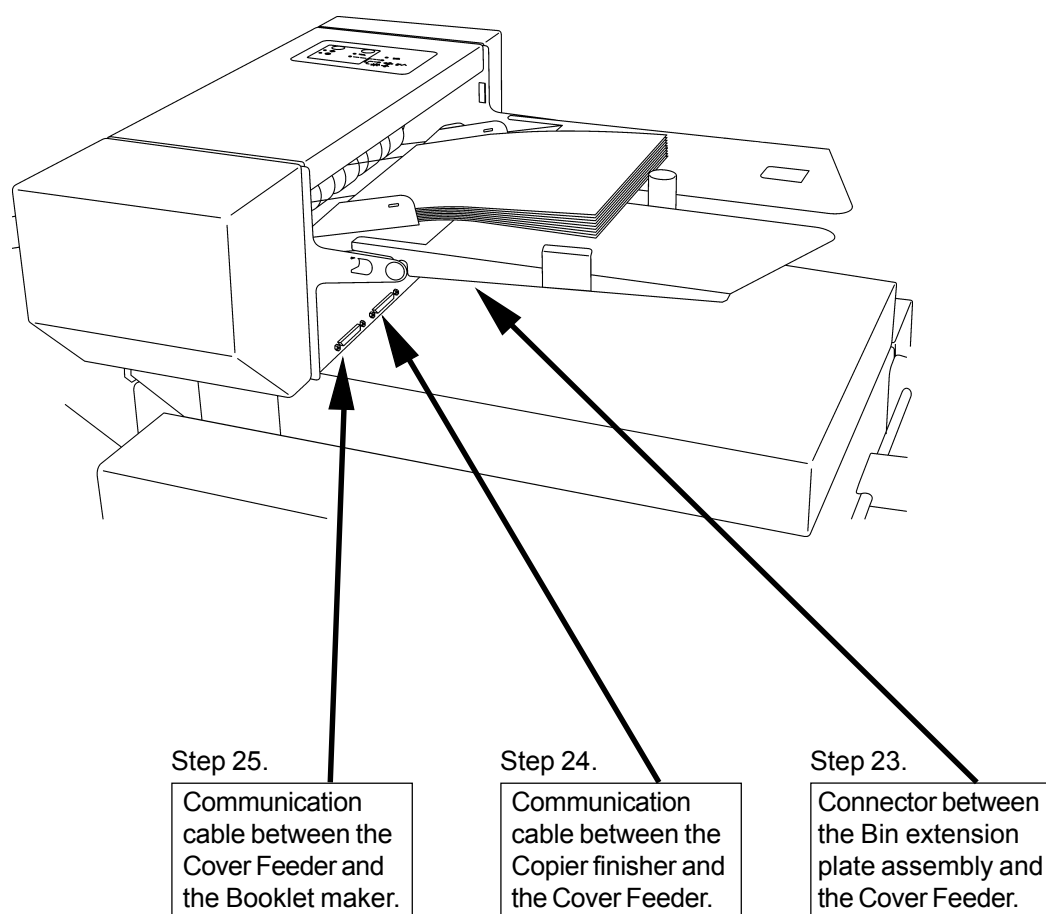

Figure 10, view of Feed roller assembly
23. Connect the Bin extension plate assembly to the Cover Feeder. Connect the connector and the ground wire, according to figure 10.
24. Connect the Communication cable from the Copier Finisher to the Cover feeder, according to figure 10.
25. Connect the Communication cable that was included in the Installation kit between the Cover Feeder and the Booklet maker, according to figure 10.